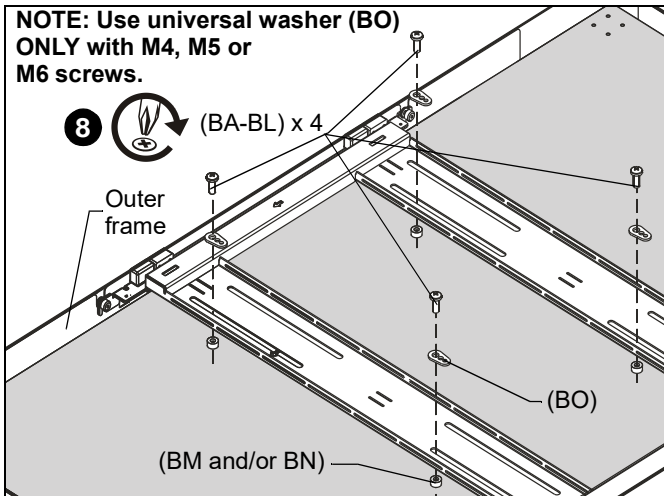

Figure 7
- IMPORTANT ! :** The M8 screws do **NOT** require a washer. Use the universal washer (BO) **ONLY** with the M4, M5 or M6 screws.
7. Place hinged frame onto back of flat panel and match the VESA pattern on flat panel to the hinged frame mounting slots. Also match the threaded studs in outer frame to the hooks on the hinged frame. (See Figure 7)
8. Use selected screws (BA-BL), washers (BO--if required), and spacers (BM, BN--if required), to connect hinged frame to back of flat panel. (See Figure 7)